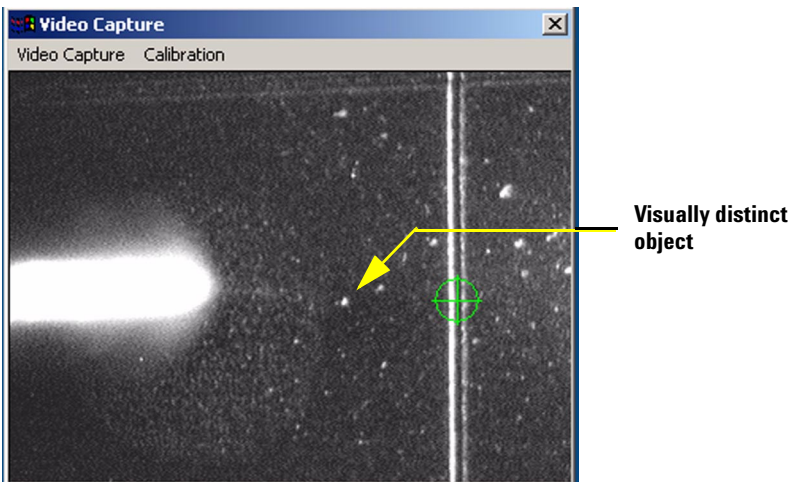
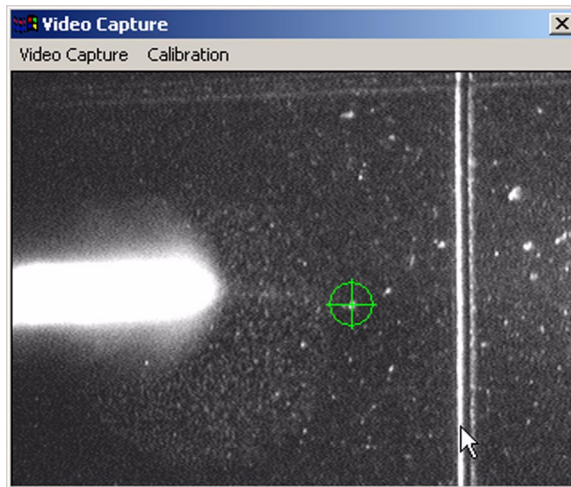

Figure 73 Video capture screen showing the location of the visually distinct object after step 2
Figure 74 Video Capture screen showing green target that was dragged over the visually distinct object in step 3
- 4 In step 3 of this calibration procedure, the Target Plate moves horizontally (see Figure 73). Watch to see where the visually distinct object moves, then drag and drop the green target icon over the same object. See Figure 74. Click **Next**.